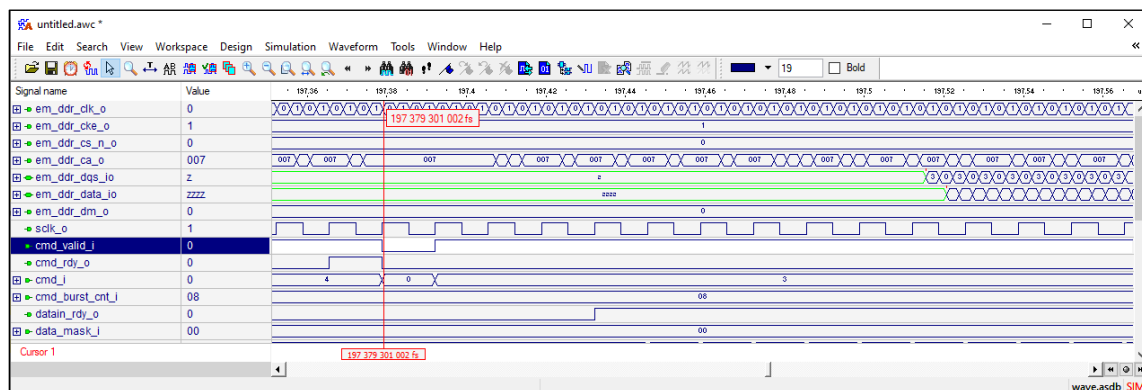

Figure 3.6. Simulation Waveform Hardware Evaluation
**Note:** It is necessary to follow the procedure above until it is fully automated in the Lattice Radiant software suite. The results of the simulation in our example are provided in Figure 3.6.